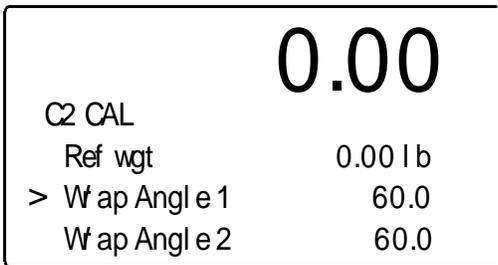

FIG. 2-39 C2 CAL/ENTERING WRAP ANGLE 1
- Step 12. Press the "-" arrow button to move the cursor in front of "Wrap Angle 1". (See Fig. 2-39)